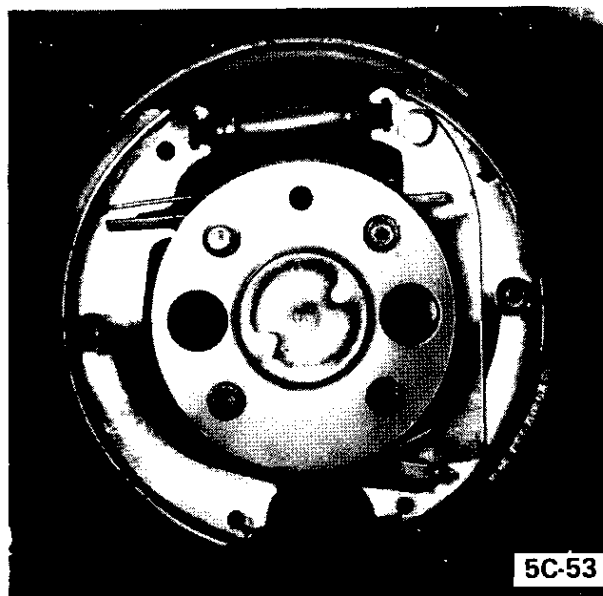

Figure 5C-53 Rear Brake Assembly
10. Check all backing plate attaching bolts to make sure they are tight. Using fine emery cloth, clean all rust and dirt from shoe contact surfaces on plate. See Figure 5C-53.